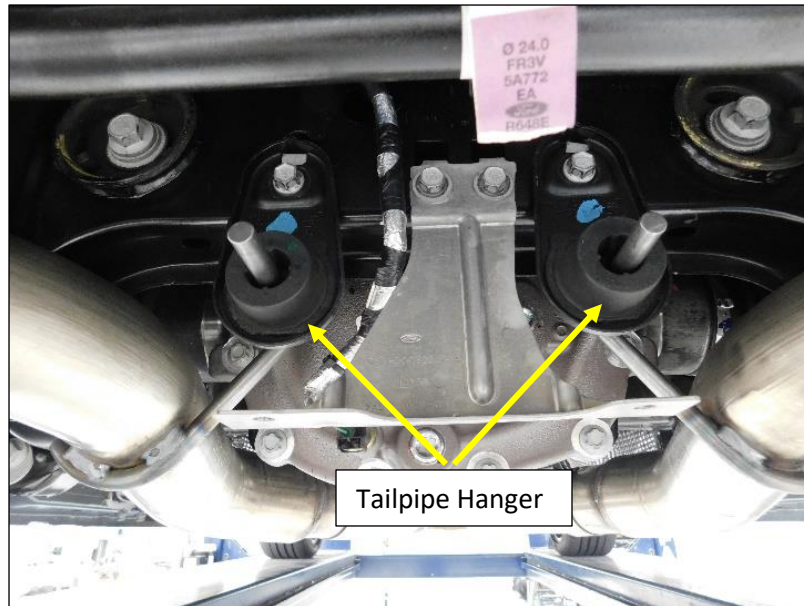

**Figure 3**
4. Mark the exhaust pipe between the center resonator and the muffler, as shown in **Fig. 3**.
- Use a reciprocating saw or cut off wheel and cut the exhaust at the edge of the tape, as shown in **Fig. 3**.